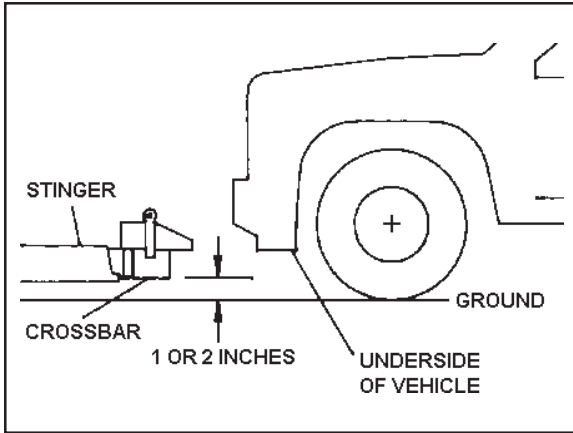

Figure 4-1.
4. Fully retract the stinger of the underlift. Adjust the height of the cross bar so it is 1 or 2 inches above the ground. Make sure it is low enough to clear the underside of the vehicle being loaded. (See Figure 4-1.)